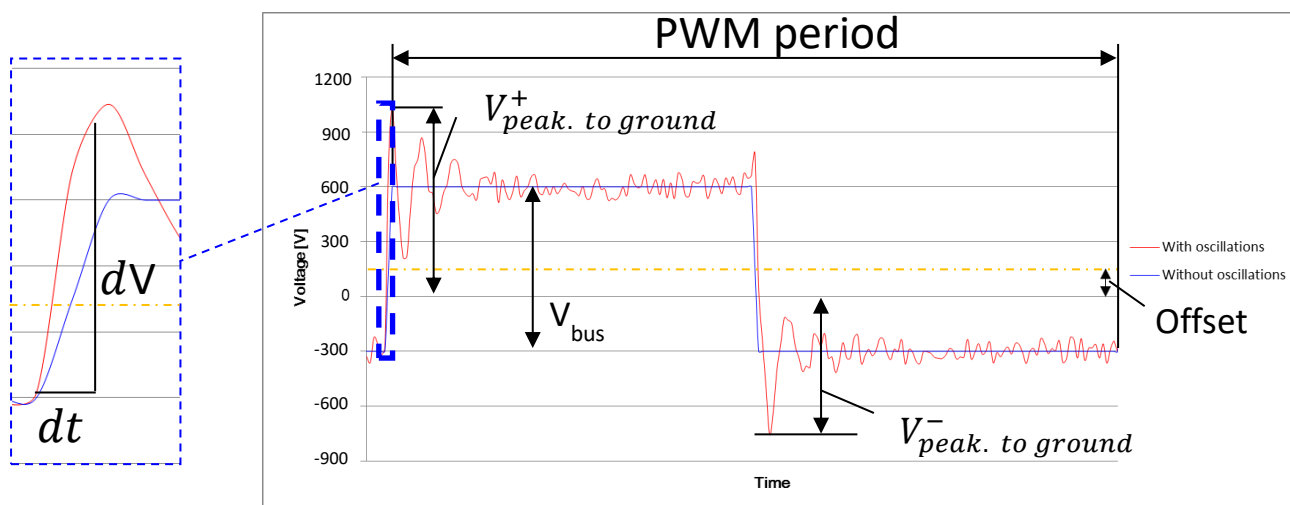

Figure 3.4.1 Phase to ground voltage oscillation schematic (600/750 V_{DC} controller)
- 600 or 750 V_{DC} controllers: 1050 V_p maximum (phase to ground at the PWM frequency) and a voltage gradient: $11kV/\mu s$, as shown in Figure 3.4.1, and Table 3.4.1.